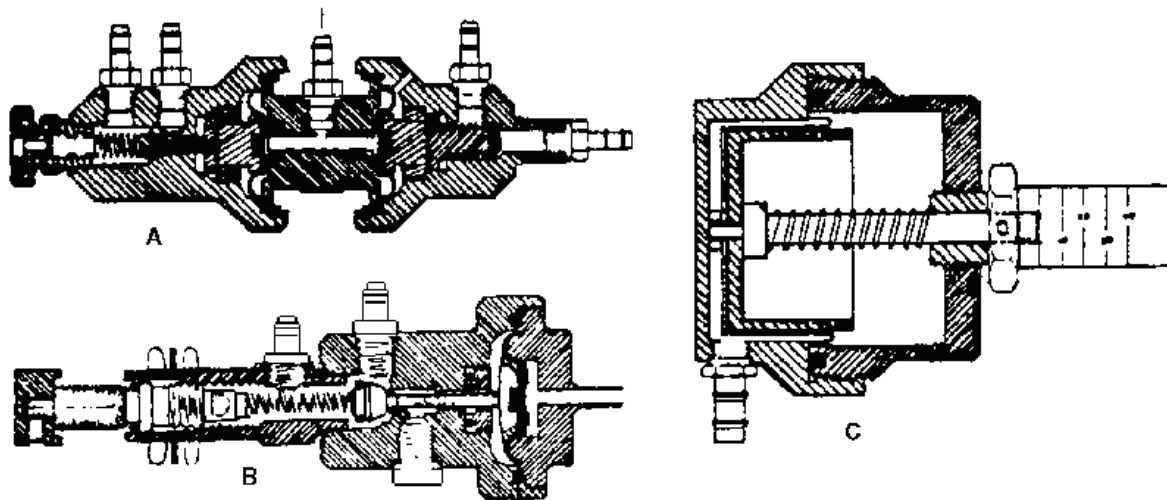

Figure 1-7. Compound-lockout cartridge (A), low pressure alarm (B), and self-test device (C).
(8) Compound-lockout cartridge. The compound-lockout cartridge (A in figure 1-7) consists of a double diaphragm, a spring-loaded poppet valve with four gas connections, and an adjustable screw on one end for calibration of the lockout function. The flow through the lockout cartridge also goes to a lockout alarm. A tee connection is installed in the inlet power line of the Mark 2 servo, which delivers source-gas pressure from the mode selector valve to the inlet side of the inspiratory-lockout cartridge. Flow out of the cartridge is directed to a tee fitting and to the pneumatic alarm. Its function is to terminate inspiration when the inspiratory time limit is exceeded and sound an alarm.
(9) Low pressure alarm. The fifth and sixth outlets from the inlet manifold deliver source gas to a pneumatically-operated, low pressure alarm cartridge (B in figure 1-7). It functions on the spring balanced diaphragm principle. When source pressure against the diaphragm drops below the value required to keep the valve closed against the tension of the opening spring (below 43psi), the valve opens, allowing direct flow to the alarm. There are two flow paths to the low pressure alarm. One operates the diaphragm, the other operates the pneumatic alarm.
(10) Self-test device. The self-test device (C in figure 1-7) is a spring-loaded rolling diaphragm in a housing. The spring holds the diaphragm collapsed. On the ambient side of the diaphragm is an indexed shaft which slides within a calibrated transparent tube. The area to the rear of the diaphragm and reset spring is such that a mechanical approximation of an infant lung is created. A functional volume display from 0 to 40cc is incised in the tube to demonstrate tidal volume of gas mixtures delivered to the patient. The self-testing device is used to demonstrate the controlled IMV mode of operation, or to provide a functional checkout of the ventilator. Individual operator proficiency can be raised by practicing with this device.